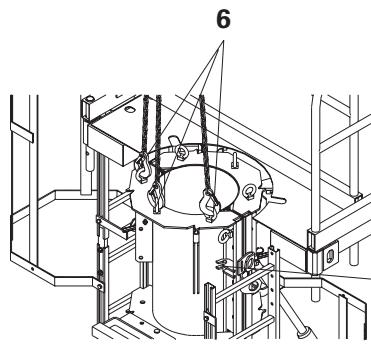

Fig. 25a
1. Connect the three chains of the lifting gear to the eye bolts **6**. Fig. 25a